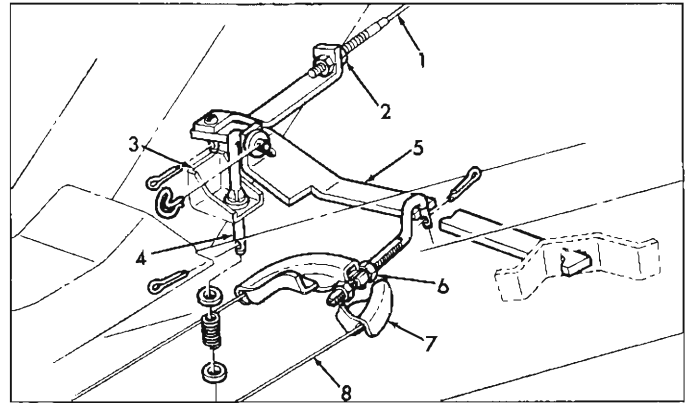

Fig. 13—Parking Brake System
2. Check the location of the idler lever with respect to the swivel rod bracket on the frame to be sure the front cable is correctly adjusted (fig. 13). To correct front cable adjustment, the equalizer must be disconnected, the check nuts on the forward cable tightened so the correct clearance may be established (ordinarily this clearance will be correct even after long periods of service).
1. Remove rear check nut at rear end of forward brake cable (fig. 13), and pull rod end out of lever.